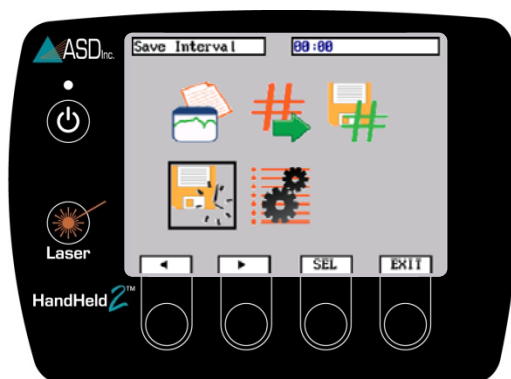

Figure 2-35: Save Interval
- Step 2 Navigate to the Save Interval icon and press the *SEL* button (Figure 2-35).